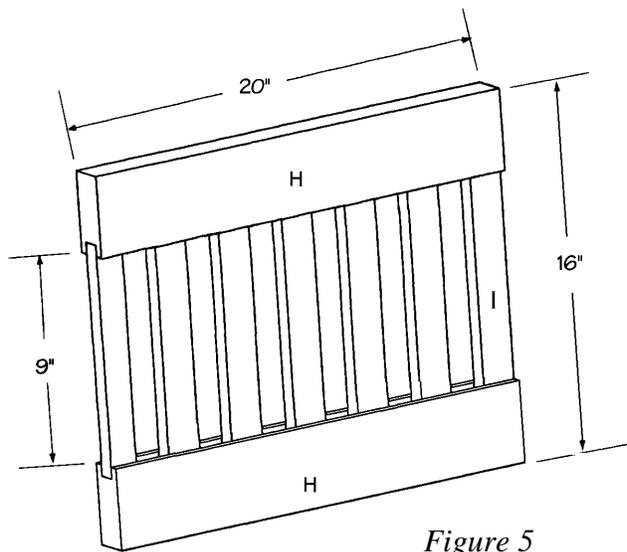

Figure 5
3. Cut seven Back Slats (I) from 1 x 2 pine, each measuring 10 inches long.
4. Working on a level surface, place the Horizontal Backs (H) parallel to each other, with the dados to the inside, as shown in *Figure 5*. Fit the ends of the seven Back Slats (I) into the dados in each of the two Horizontal Backs (H). The spacing between the slats should be approximately 1-1/2 inches. In fact, we used an extra slat as a spacer. When the Back Slats (I) are properly fitted into the dados, the distance between the two Horizontal Backs (H) should measure 9 inches. The two outer Back Slats (I) should be even with the ends of the Horizontal Backs.